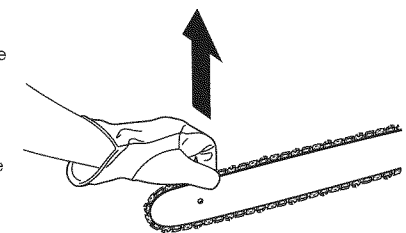

Fig. 34
4. Once adjusted, lift the tip of the guide bar up to check for proper tension (Fig. 34). If the chain is still too loose, release the tip of the guide bar and turn the chain-tensioning screw 1/2 turn clockwise. Repeat this process until the desired tension is achieved.